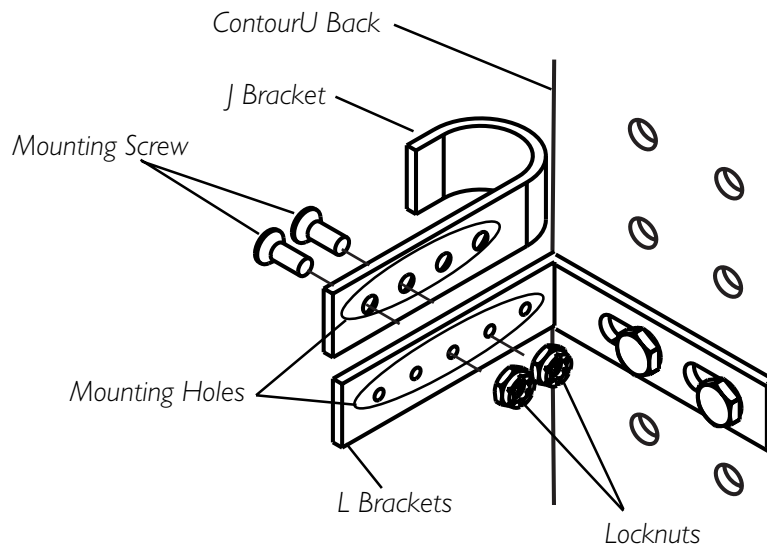

FIGURE 3 - INSTALLING THE BACK J BRACKETS
INSTALLING THE BACK J BRACKETS (FIGURE 3)
2. Align two (2) of four (4) mounting holes of the J bracket with two (2) of five (5) mounting holes on the L bracket as shown in FIGURE 3.
3. Using two (2) mounting screws and locknuts, secure the J bracket to the L bracket. Securely tighten mounting hardware.
4. Repeat STEPS 2-3 with three (3) remaining brackets.